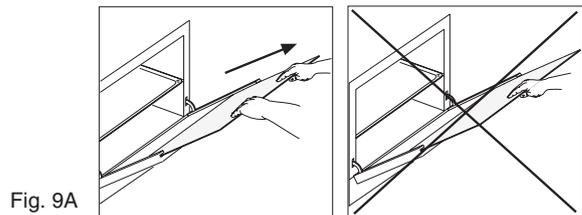
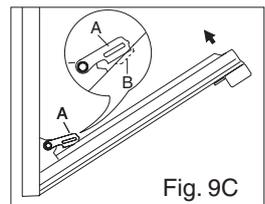

Fig. 9A
Fig. 9C
Use both hands to remove the glass as shown in figures 9A. After cleaning, refit the glass by proceeding in reverse order.
- 3 shut the oven door slowly until it reaches hooks "A", making sure these are locked into slots "B" of the oven door, as shown in fig. 9C. Remove the glass Fig. 9A (only for models where present).